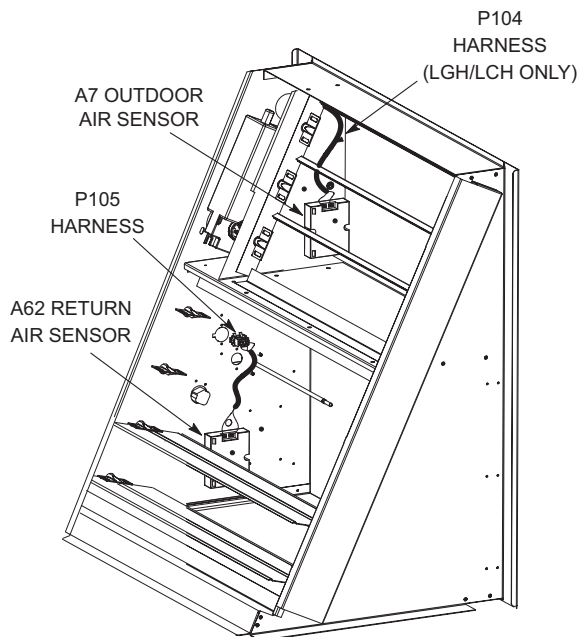
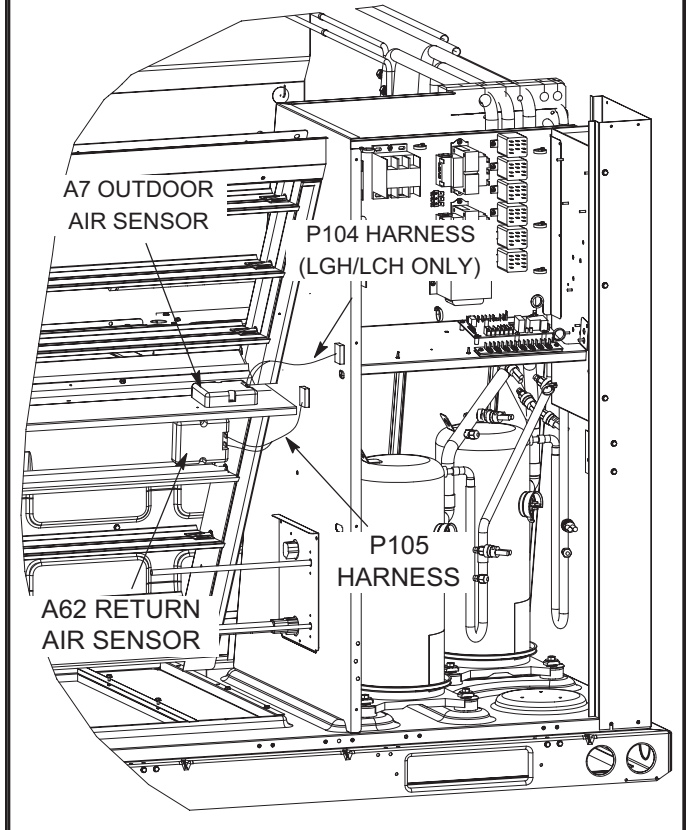
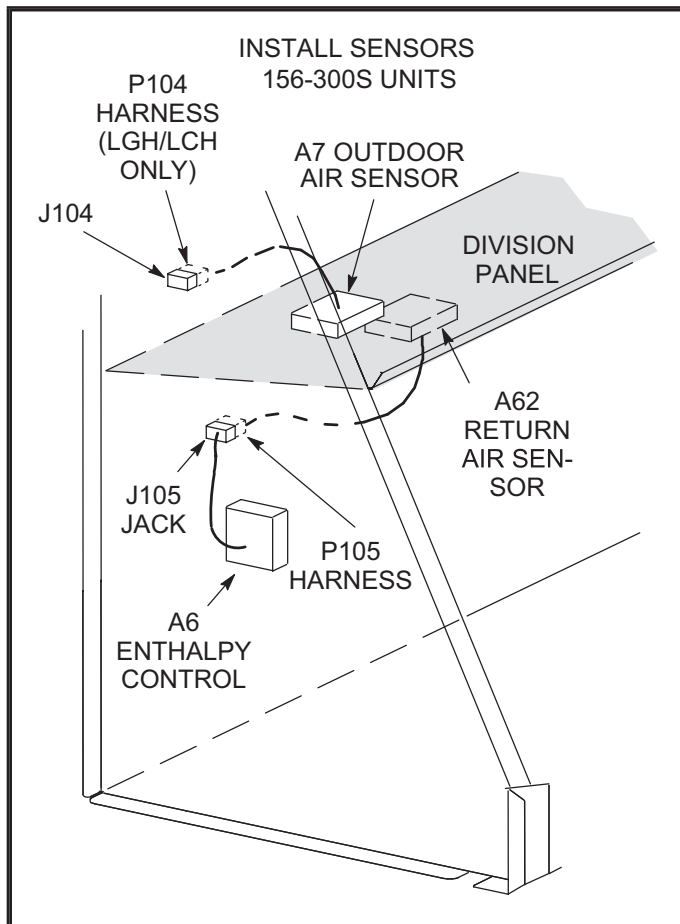

FIGURE 1
FIGURE 2
FIGURE 3
- 1 - Connect P104 harness plug to unit J104. See FIGURE 1 for 024-090 units, FIGURE 2 for 078-152 units, and FIGURE 3 for 156-300S units. On SC/SG/SH/SD see FIGURE 10 for 036-060, FIGURE 11 for 092-240.
- 1 - Connect P105 harness plug to unit J105. See FIGURE 1 for 024-090 units, FIGURE 2 for 078-152 units, and FIGURE 3 for 156-300S units. On SC/SG/SH/SD see FIGURE 10 for 036-060, FIGURE 11 for 092-240.
- 1 - Install J105 harness jack in panel as shown in FIGURE 8 for 024-090 units, FIGURE 9 for KG/KC/KH 090-150 units and FIGURE 3 for 180-300S units.